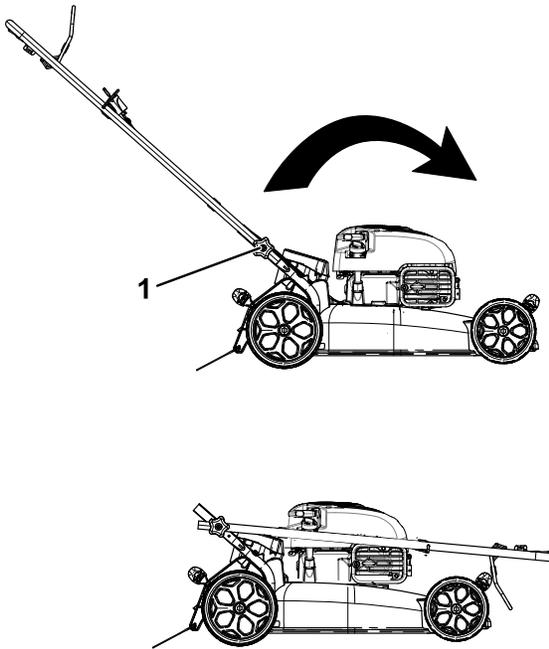

Figure 22
2. Loosen the handle knobs until you can move the handle freely (Figure 22).
1. Handle knob (2)
3. Move the handle forward as shown in Figure 22.